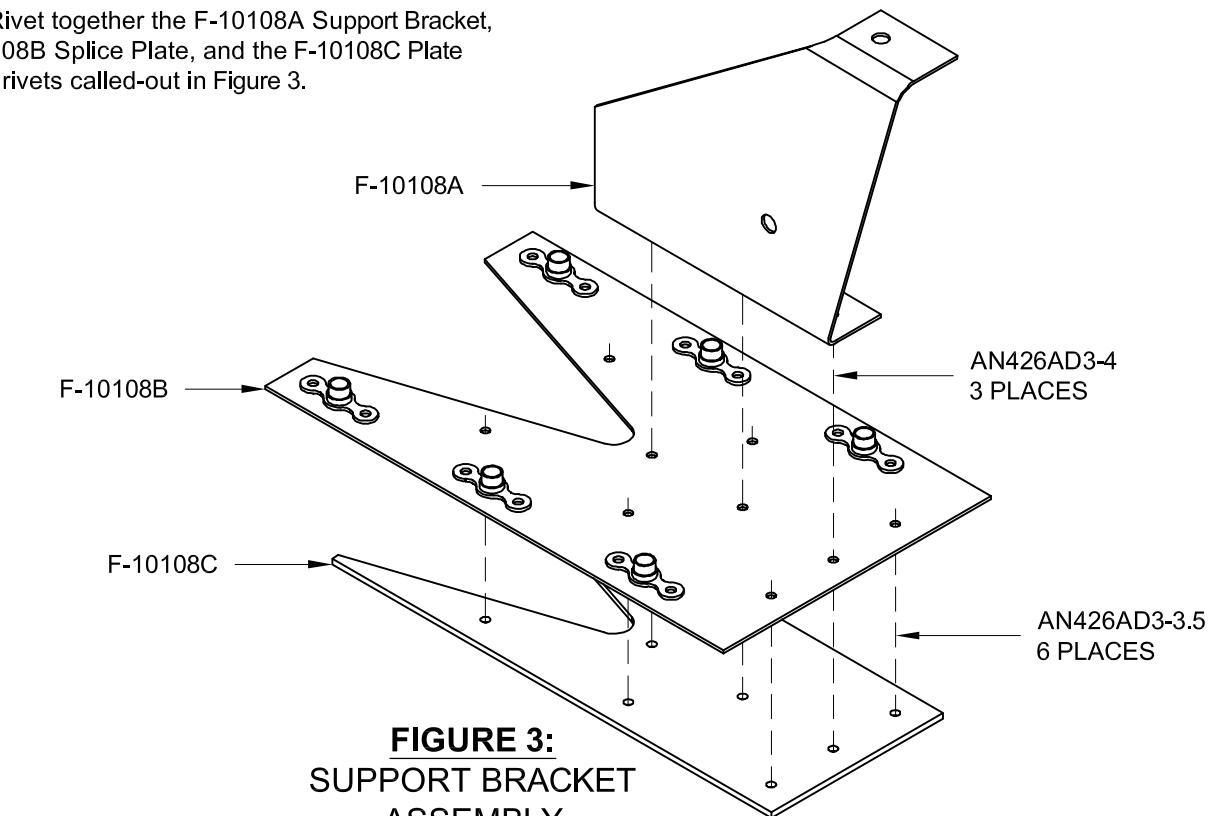

FIGURE 3:
Step 7: Cut the ten louver slots, shown in Figure 3, into the bottom cowl. Start by drilling the holes in the center of the radius at both ends of each slot to Ø13/16, then trim between the holes to finish the slot.
Step 2: Cleco together the F-10108A Support Bracket, the F-10108B Splice Plate, and the F-10108C Plate as shown in Figure 3. Final-Drill #40 all of the 3/32" holes common to the three parts and the six pairs of nutplate attachment rivet holes in the splice plate.
Step 5: Rivet together the F-10108A Support Bracket, the F-10108B Splice Plate, and the F-10108C Plate using the rivets called-out in Figure 3.